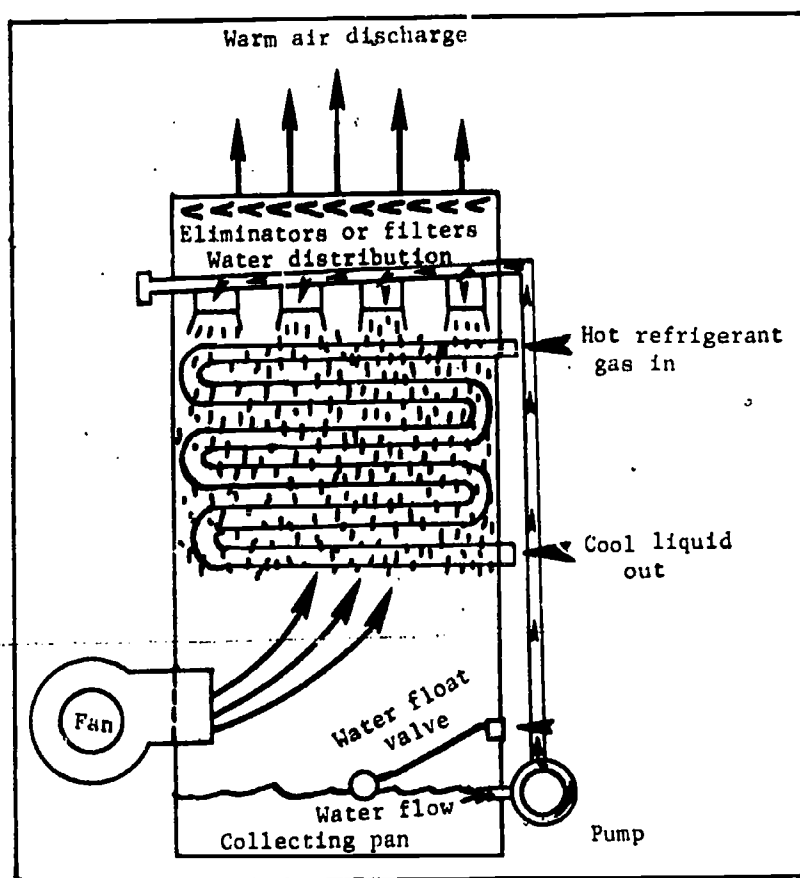

Fig 2-11. Schematic drawing of an evaporative condenser.
d. Evaporative condensers (fig 2-11). These condensers operate on the cooling effect produced by the evaporation of a small amount of water. Standard evaporative condensers are much like cooling towers in that they use a spray or drip chamber, a water-collecting pan, a motor-driven pump, a motor-driven fan, and are usually located outside. Additionally, it is necessary in an evaporative condenser to have a refrigerant condensing coil. Refrigerant vapor is circulated through the condensing coil, water is sprayed over it and air is circulated around the coil. The latent heat of condensation is transferred to the water, evaporating it,